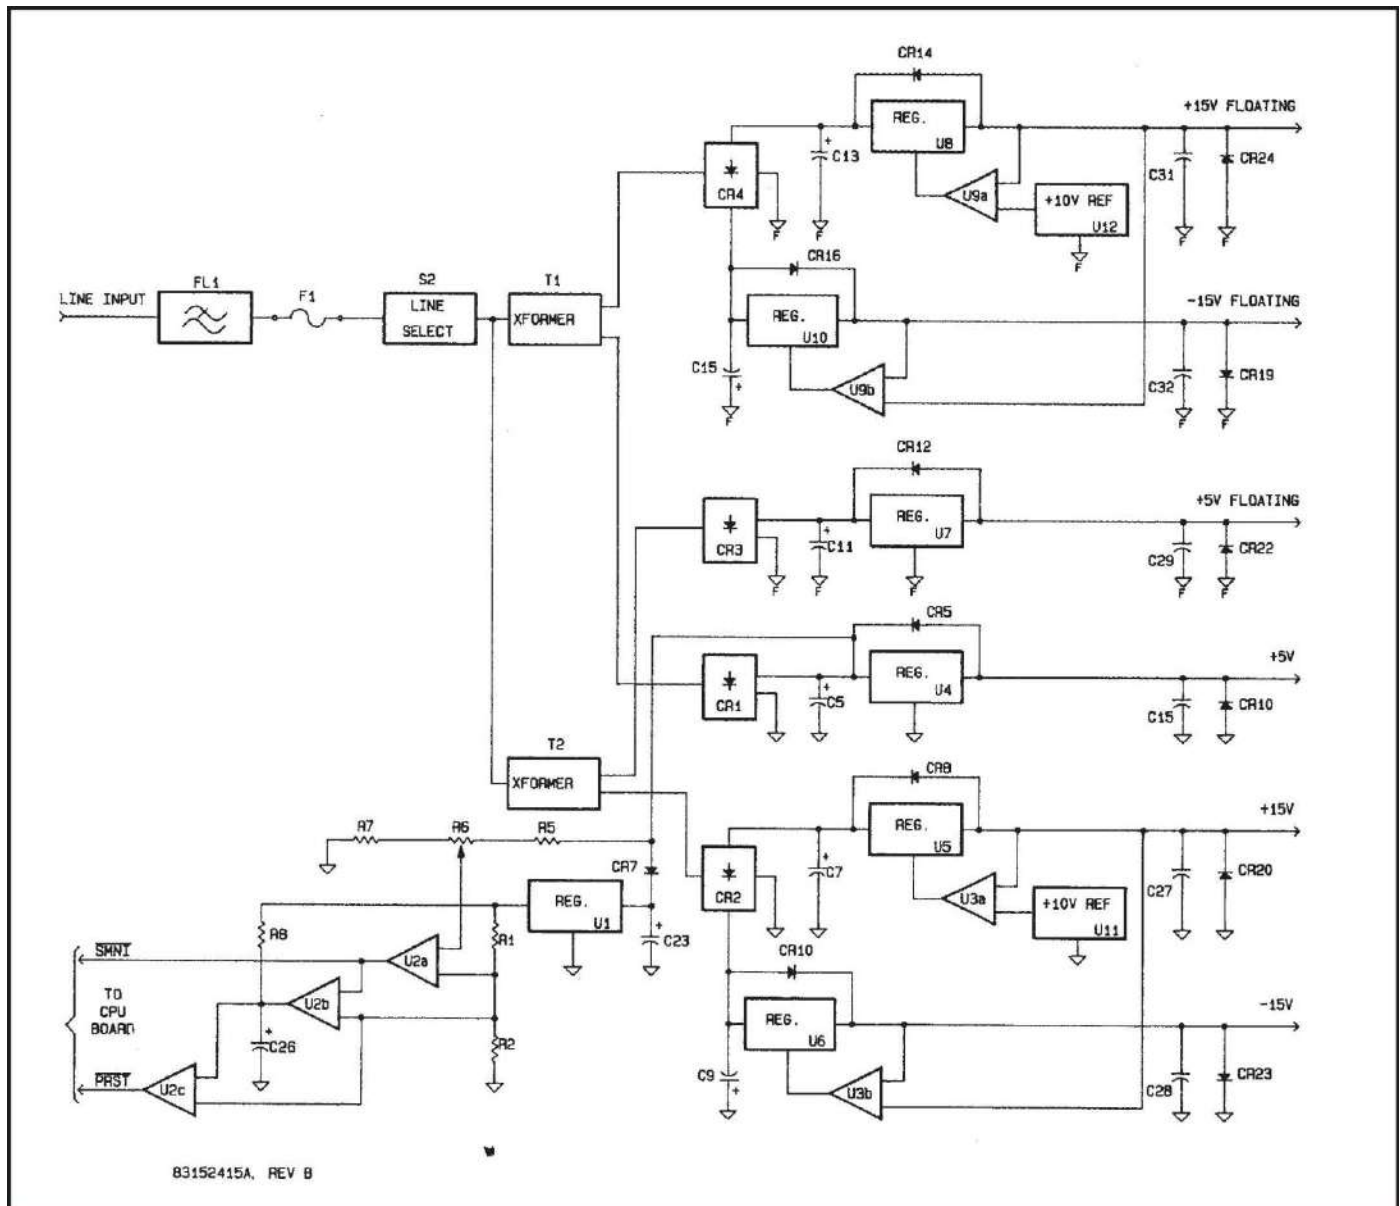

Figure 4-2. Power Supply Circuits Block Diagram.
**4-15. A10 Power Supply Circuits.** The power supply provides the main power for the logic and analog circuits. Refer to Figure 4-2.